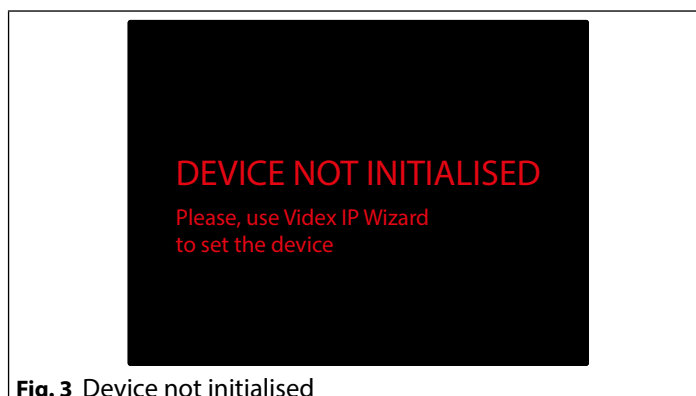

Fig. 3 Device not initialised
⚠ In order to prevent water ingress we highly recommend using a silicon sealant between the wall and the back box **(C) ON THE LEFT, TOP AND RIGHT SIDES ONLY AND AROUND ALL HOLES **(D)**. DON'T USE SILICON SEALANT ON THE BOTTOM SIDE OF THE BACK BOX (Fig.3);**
If powering on the videophone (through a POE switch/router or an external power supply unit) the display shows the message "DEVICE NOT INITIALISED" (**Fig. 3**), use the configuration software for VIDEX IP system (Videx IP Wizard.exe) to set the device and the system.